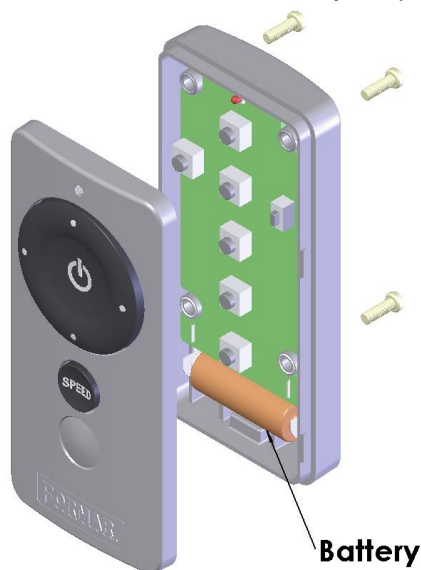

Fig. 3 Battery Location in Remote Controller
2. Loosen the four (4) screws from back cover of Remote Controller.
3. Carefully disassemble Remote Controller, see details in Fig.3.